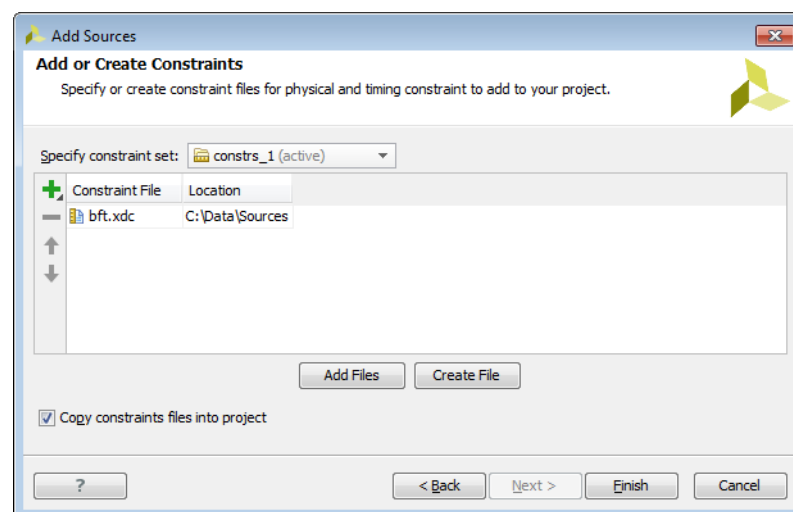

Figure 3-25: Add Sources Wizard—Add or Create Constraints Page
3. In the Add or Create Constraints page (Figure 3-25), set the following options, and click **Finish**.